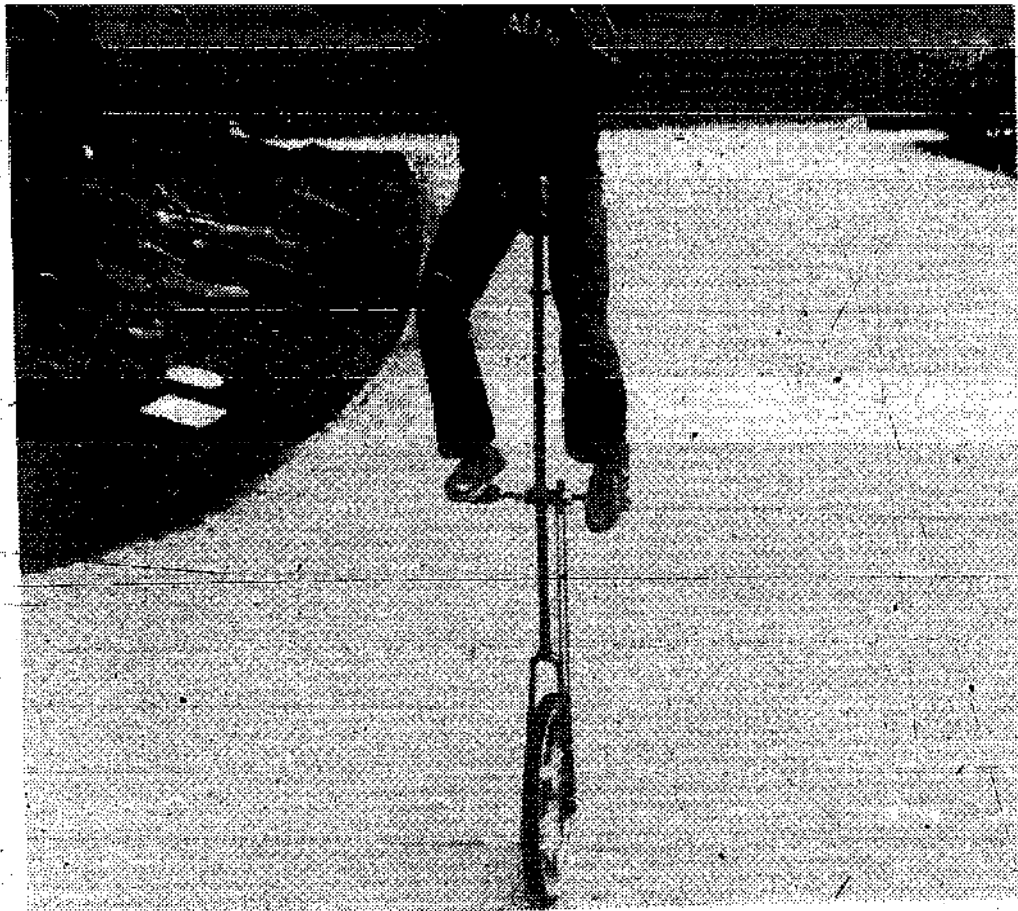

Fig. 15-28. Juggling three balls while riding a giraffe unicycle.
**Juggling While Riding a Unicycle.** Juggling while riding a unicycle is fun and challenging. Figure 15-28 shows Brian Martin, age 14, juggling three balls while riding a giraffe unicycle.